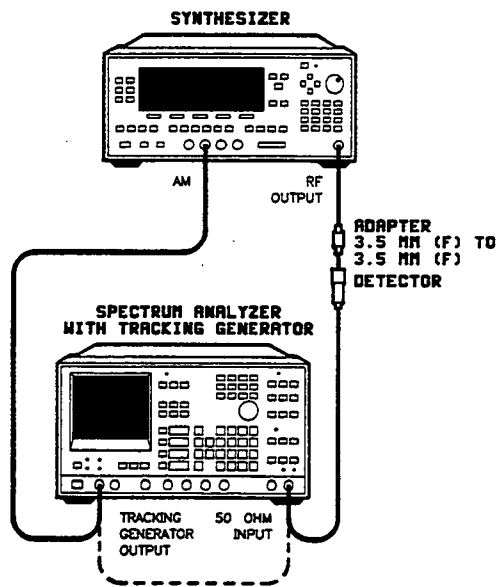

Figure 2-20. AM Bandwidth Test Setup
1. Connect the equipment as shown in figure 2-20 with the tracking generator output connected to the 50 ohm input of the spectrum analyzer. Press **PRESET** and let the equipment warm up for at least one hour.